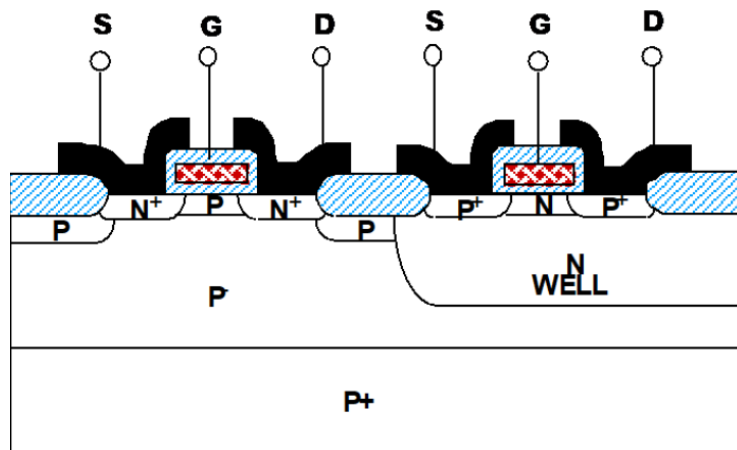

Figure 1: Single Well CMOS process
1. Please draw a process flow for a single well process that uses LOCAl Oxidation of Silcion (LOCOS) process for device isolation. The final cross section is given in Fig.1